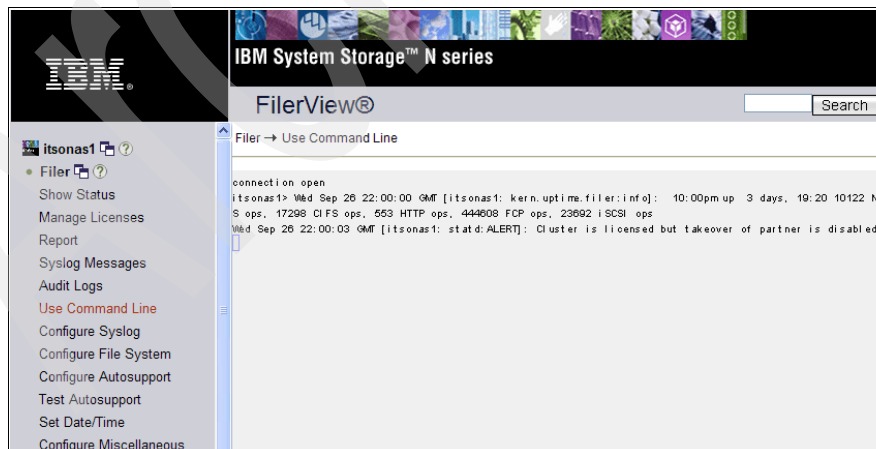

Figure 10-5 Filer item in FilerView
- ▶ Filer: performs some maintenance work on the storage system, such as add licenses, view storage system's status, view logging information, set time and date on storage system, use CLI function in FilerView, and reboot or shutdown storage system. Figure 10-5 on page 355 give you a glance of the 'Filer' item.
Figure 10-5 is an example of the Filer in FilerView.